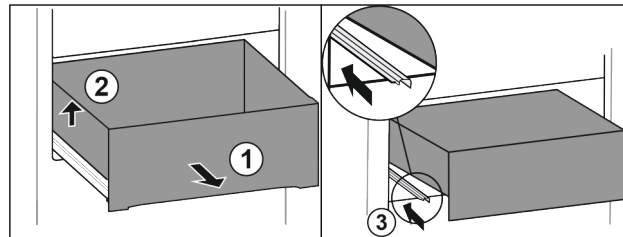

Fig. 72
- ▶ Pull out drawer as far as it will go. Fig. 72 (1)
- ▶ Lift drawer on the left. Fig. 72 (2)
- ▶ Slide in left rail. Fig. 72 (3)